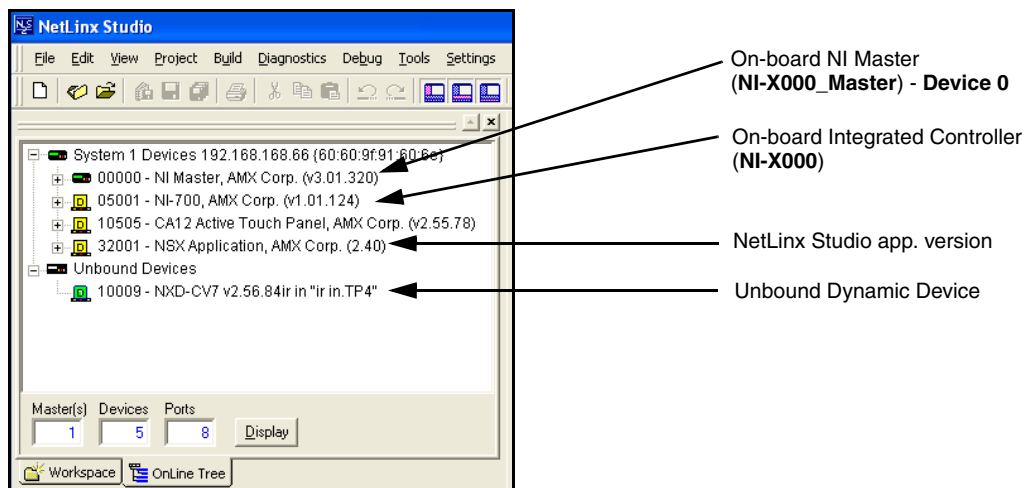

FIG. 41 Sample NetLinx Workspace window (showing SEPERATE NI-Master and Controller)
2. After Studio has established a connection to the target Master, click the **OnLine Tree** tab of the Workspace window to view the devices on the System. *The default System value is one (1).*
4. After the Communication Verification dialog window verifies active communication between the PC and the NI unit, verify the Integrated Controller (*NI-X00 or NI-Xx00*) appears in the **OnLine Tree** tab (FIG. 41) of the Workspace window (*ex: NI-4000 or NI-700*). This entry is different than the NI Master which uses a device value of *00000* (see below):